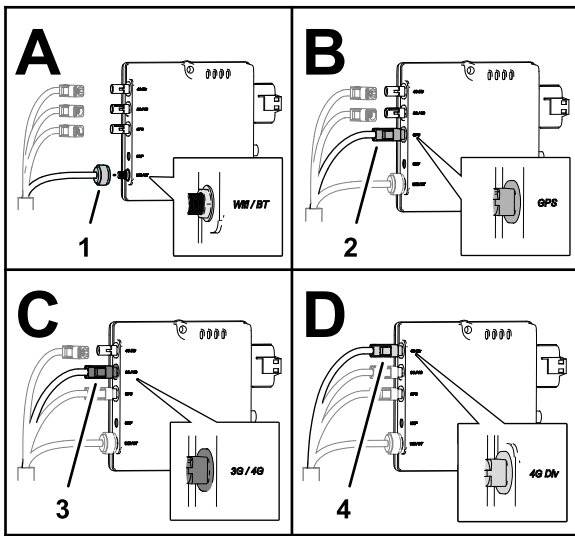

Figure 164
- Plug the coaxial connector of the modem-antenna harness labeled WiFi into the coaxial port of the CL-55 modem marked WiFi/BT, and tighten the coaxial connector (Figure 164).
2. Plug the blue coaxial push-in connector of the modem-antenna harness labeled GNSS into the connector of the CL-55 modem marked GPS, until the connectors latch securely (Figure 164).
3. Plug the violet coaxial push-in connector of the modem-antenna harness labeled LTE-1 into the connector of the CL-55 modem marked 3G / 4G, until the connectors latch securely (Figure 164).
4. **CDMA Modems Only:** Plug the red coaxial push-in connector of the modem-antenna harness labeled LTE-2 into the connector of the CL-55 modem marked 4G DIV, until the connectors latch securely (Figure 164).